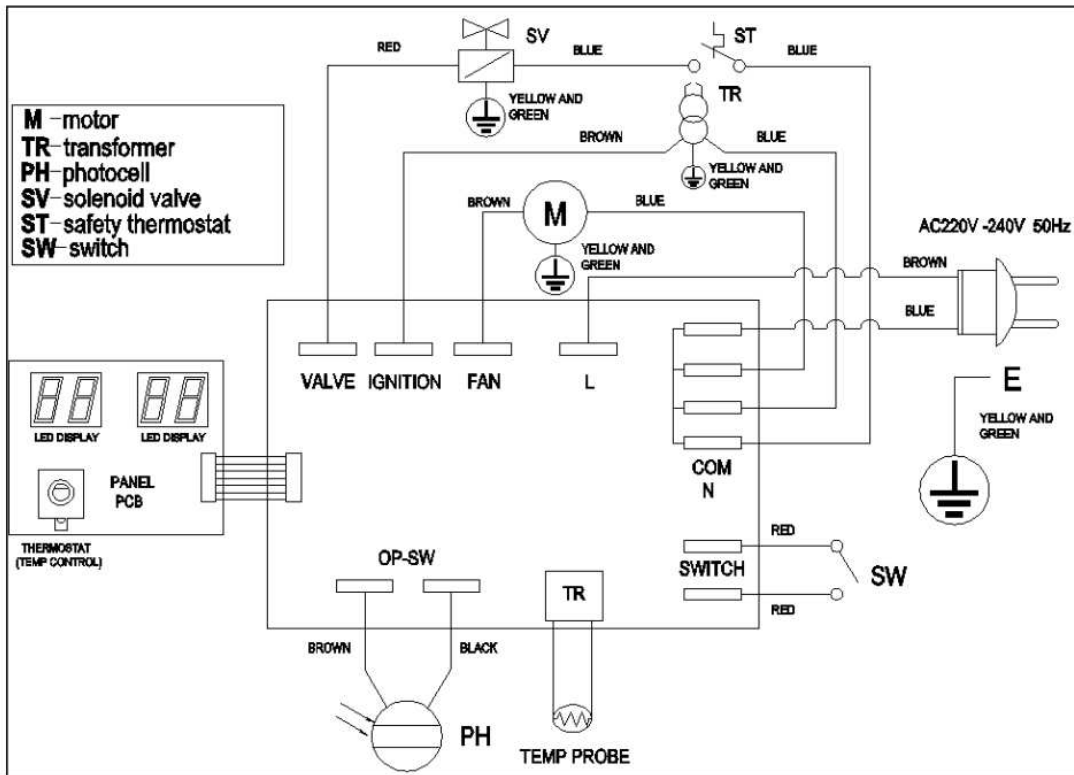

**Fig.7**
## Air collar adjustment (Fig. 7)
**HIGH ALTITUDE INSTALLATION:** Due to lower oxygen rate with reference to high altitude installation on sea level, it may be necessary to increase air rate by opening the air collar (Fig. 7), or to reduce the setting pressure on fuel pump (Fig. 6). This setting adjustment can be necessary to prevent excessive smoke emission due to lack of Oxygen.